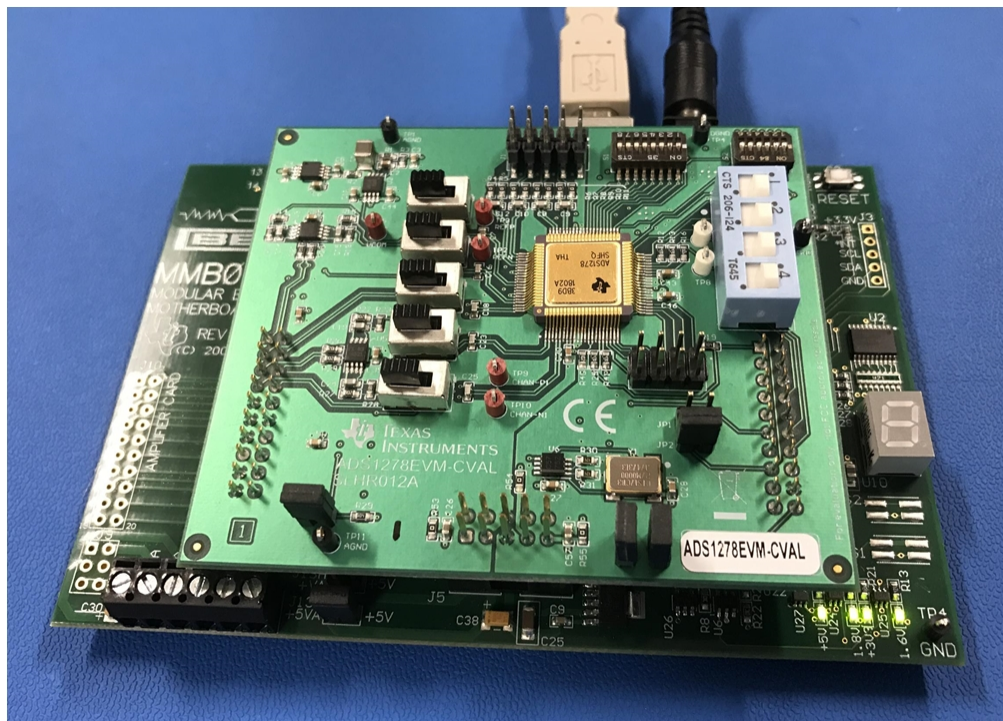

Figure 3. EVM Setup
Perform the following steps to ensure proper hardware setup as shown in Figure 3.
- Confirm that four green LEDs on MMB0 EVM light up when powered as shown in Figure 3.